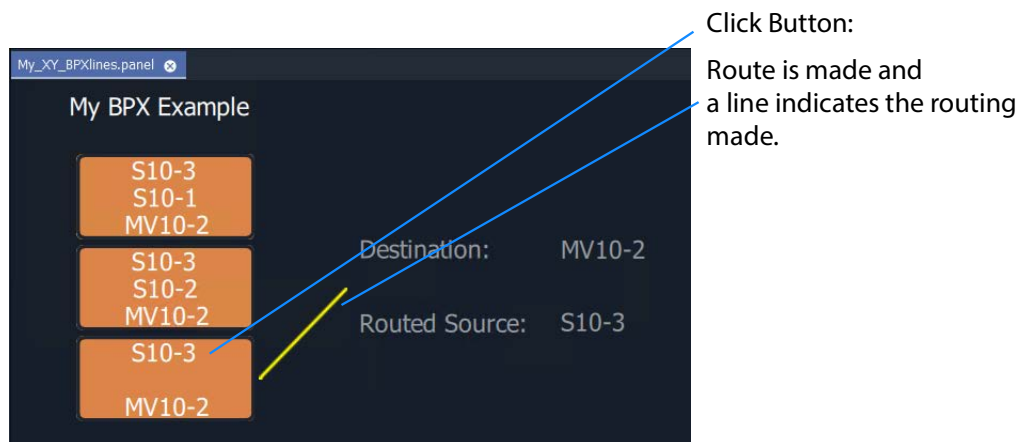

Fig. 13-64: Exercising BPX Panel with Lines
- 9 Exercise the panel. See Figure 13-64.